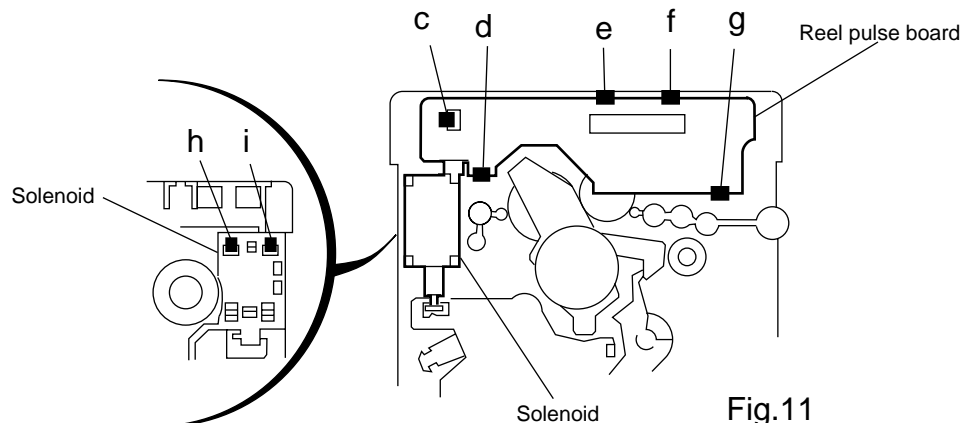

Fig.11
■ Removing the reel pulse P.C.board and solenoid (See Fig. 11)